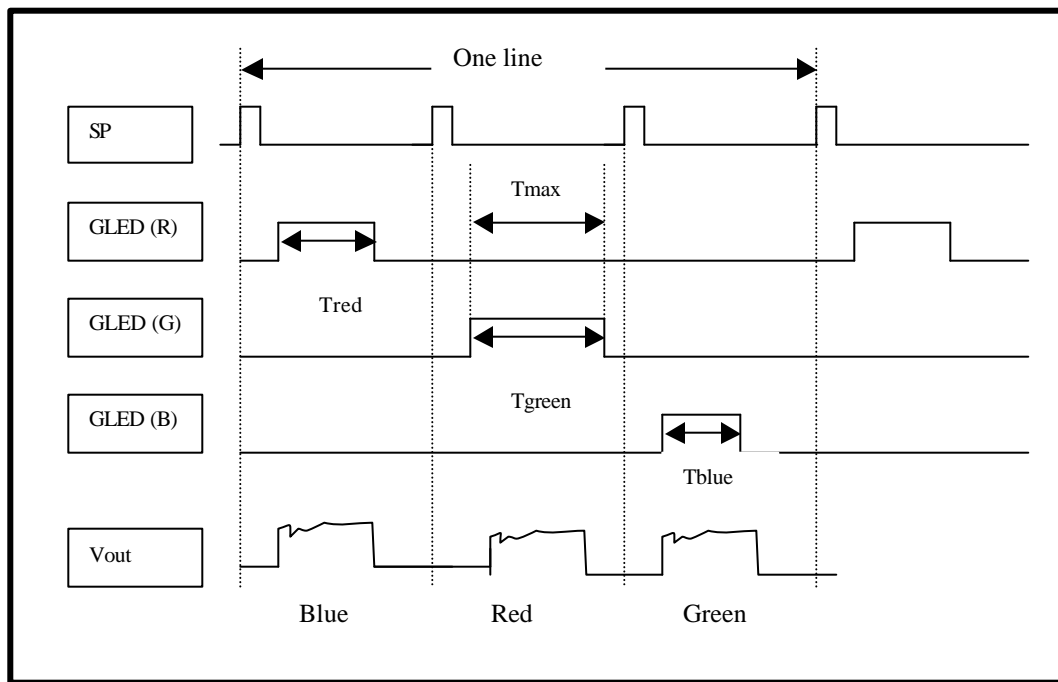

Figure 6. Timing diagram of the CIS module for color mode of operation.
The CIS module used for the color mode of operation is shown in figure 6. In this mode of operation, three different color light sources are pulsed. The following instruction is used to set the output signal level for three different color light source.
- 3.1.5 Reduce the pulse width of the other two LED's until the output signal is the same as the reference voltage. For example, the green LED pulse is set to T_{max} and the red and blue LED pulses are reduced, as shown in figure 6.